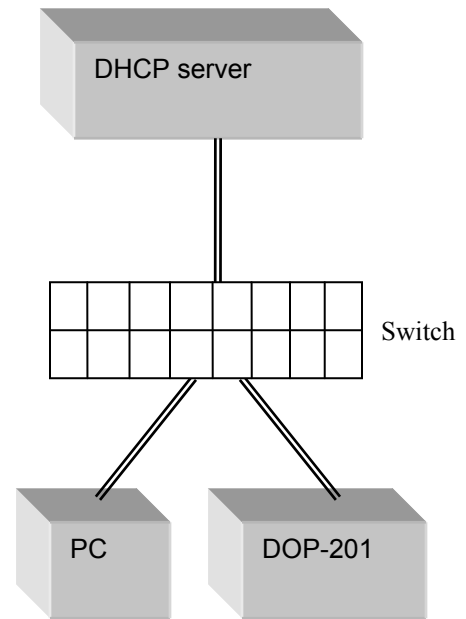

Figure 10 Connection with DHCP server
- b) **Dynamic IP:** the DHCP server assigns the instrument an available address when requested. Connect the instrument with a DHCP server (running on router or exchange server), as shown in Figure 10. For this configuration, a standard straight-linked network cable must be used.